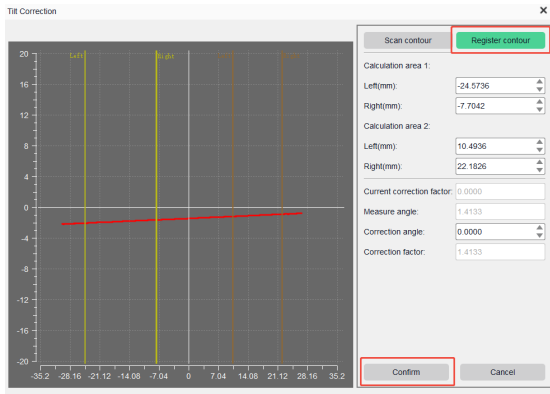

Figure 3.4.8 Register Profile, Input Correction Angle
- 4 Click Register Profile. If the installation error tilt angle is known, enter the correction angle in the editing interface and click the OK button to perform tilt compensation. If the installation tilt error angle is unknown, simply click the OK button, as shown in Figure 3.4.8.